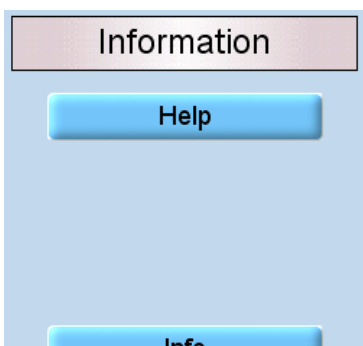

Figure 113
**Info:** Shows information such as serial number and software version (Figure 113).